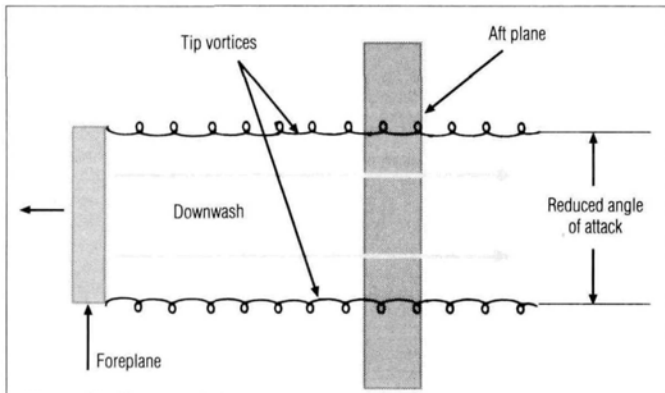

Figure 12. Downwash impact on a canard.
- **Canards:** foreplane downwash impacts on a portion of the aft wing (equal in span to that of the foreplane), reducing the angle of attack and lift in the downwashed area (Figure 12).
- **Three-surface models:** the main plane is affected as in the canard (Figure 12); and the horizontal tail is affected by the downwash from that portion of the main wing that's "shadowed" by the foreplane downwash. The reduced angle of attack of the "shadowed" portion of the main wing may be compensated for as follows: